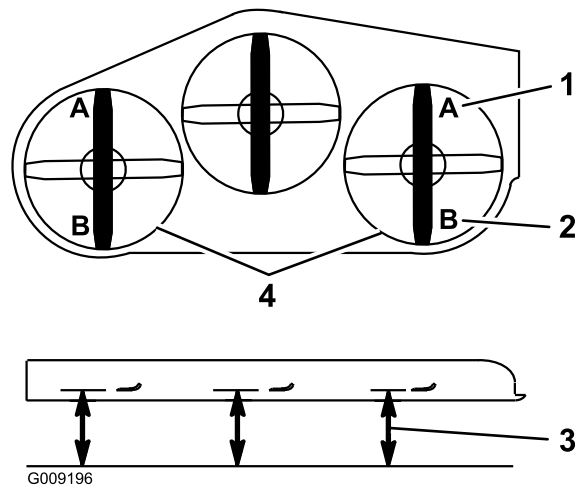

Figure 86
- 9. On both sides of the deck, measure from the level surface to the front tip of the blade (Position A) as shown in Figure 86.
- On both sides of the deck, measure from the level surface to the back tip of the blade (position B) as shown in Figure 86.